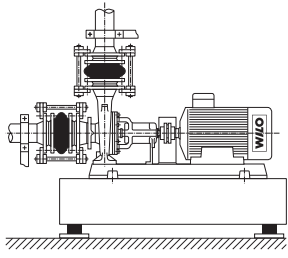

Fig. 9: Connection of the pump without tension
- The pipes must not transfer any forces to the pump. They are to be braced directly in front of the pump and connected without tension (see fig. 9).
- The expansion of the pipes in the event of a temperature rise is to be compensated by suitable means (see fig. 9). Air enclosures in the pipes must be avoided by means of a corresponding installation.